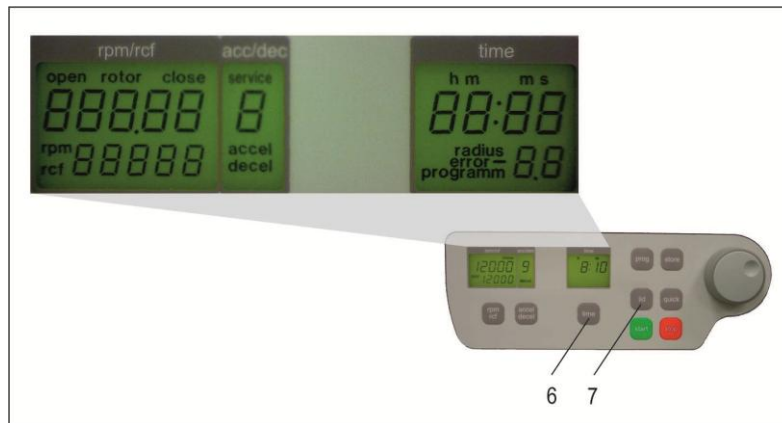

Figure 3
If the centrifuge is still turned off, press the keys, "time" (6) and "lid" (7), simultaneously in order to turn on the main switch of the centrifuge. Now release both keys. As a result, a display test is administered for approx. 5 seconds. All possible indications will appear at the same time, (see Figure 3).